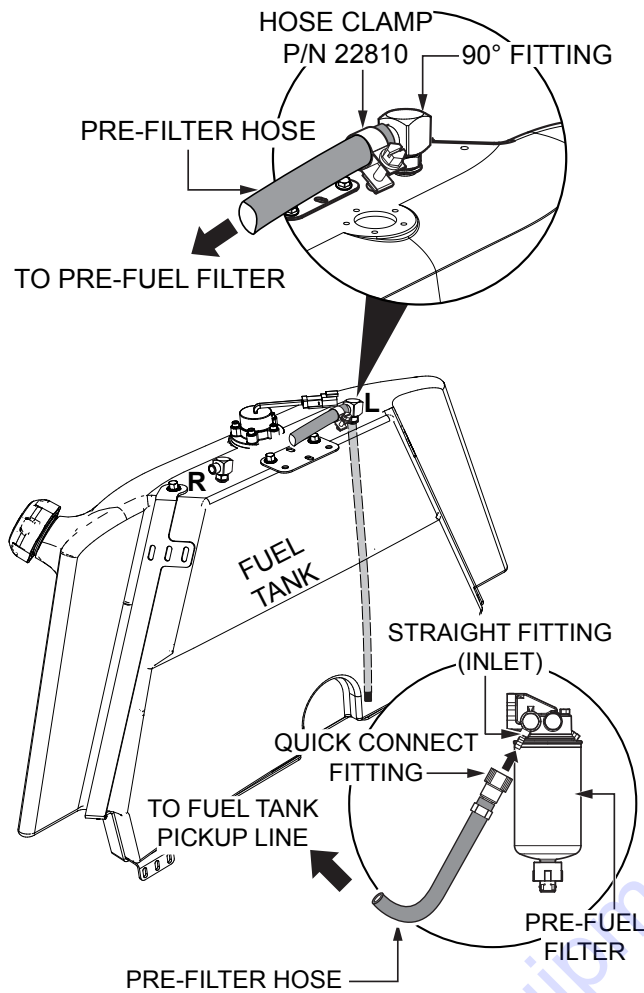

Figure 12. Pre-Filter Hose Installation
4. Connect the end of the pre-filter hose with the quick-connect fitting to the inlet side of the pre-fuel filter (Figure 12).
6. Secure the pre-filter hose to the 90° fitting with the hose clamp (P/N 22810). See Figure 12.